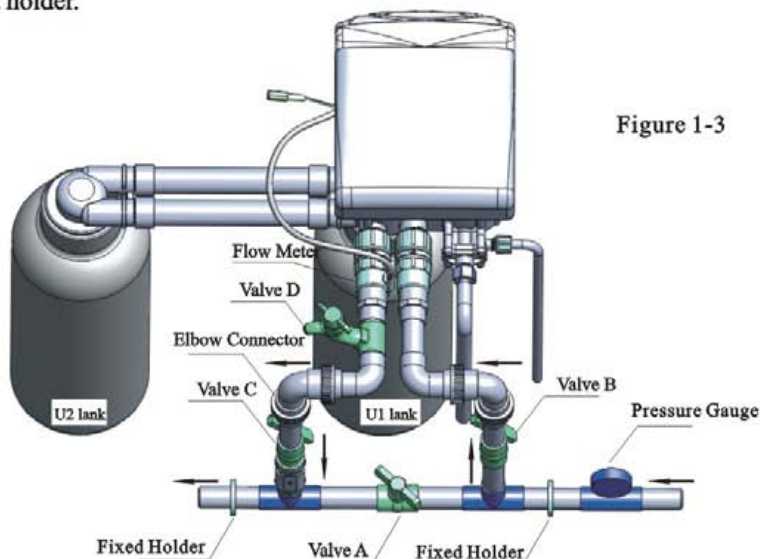

Figure 1-3
④Pipeline connection
- As Figure1-3 shows, install a pressure gauge in water inlet.